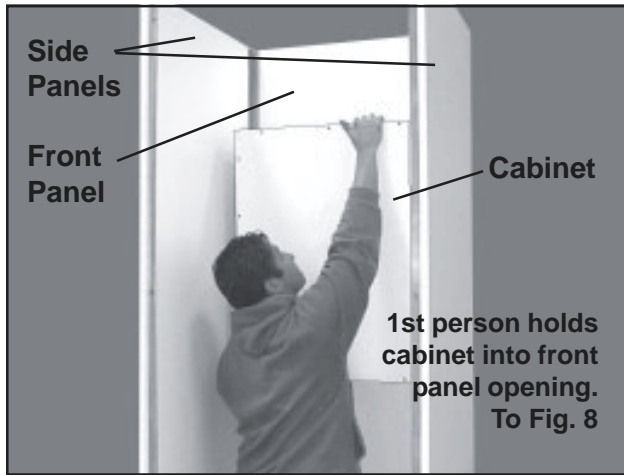

Figure 7. Installing a Cabinet From Inside the Chase
1. One person holds the cabinet into the cabinet opening from the inside the chase (Figure 7).